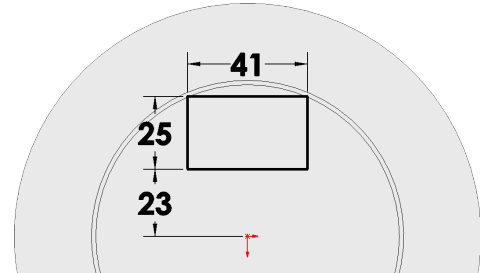

**Fig. 12**
Step 6. **Ctrl click midpoint**  of a horizontal line and **Origin**  to select both. Release Ctrl key and click **Make Vertical**  on the context toolbar, **Fig. 12**.